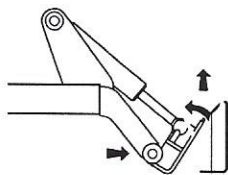

Figure 2. Attaching Power Rake to Loader
8. Raise lift arms while tilting back mount plate. (figure 2)